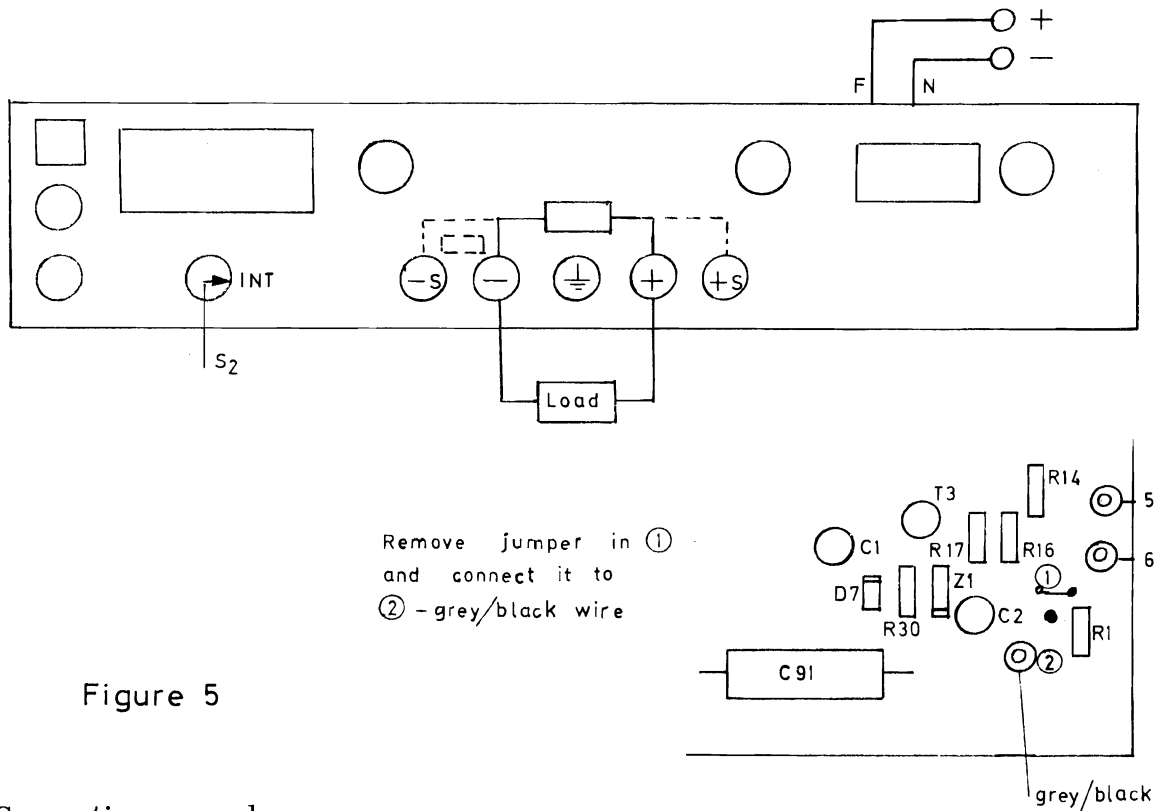

Figure 5
2. Connect jumper on main PC-board as shown in figure 5.